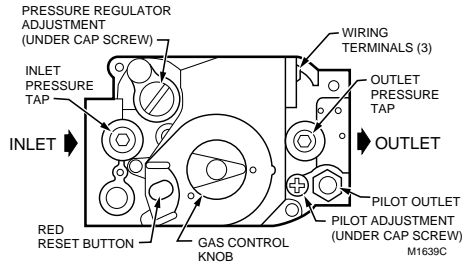

Fig. 4. Top view of gas control
6. Connect pipe to gas control inlet and outlet. Use wrench on the square ends of the gas control. If a flange is used, place wrench on flange rather than on gas control. Refer to Figs. 4 and 5.
3. Connect control circuit to gas control terminals. See Figs. 4 and 7.
1. Remove the pilot adjustment cover screw. Refer to Fig. 4.
2. With the main burner operating, check the gas control flow rate by using the meter clamping method or check the gas pressure using a manometer connected to the gas control outlet pressure tap. Refer to Fig. 4.